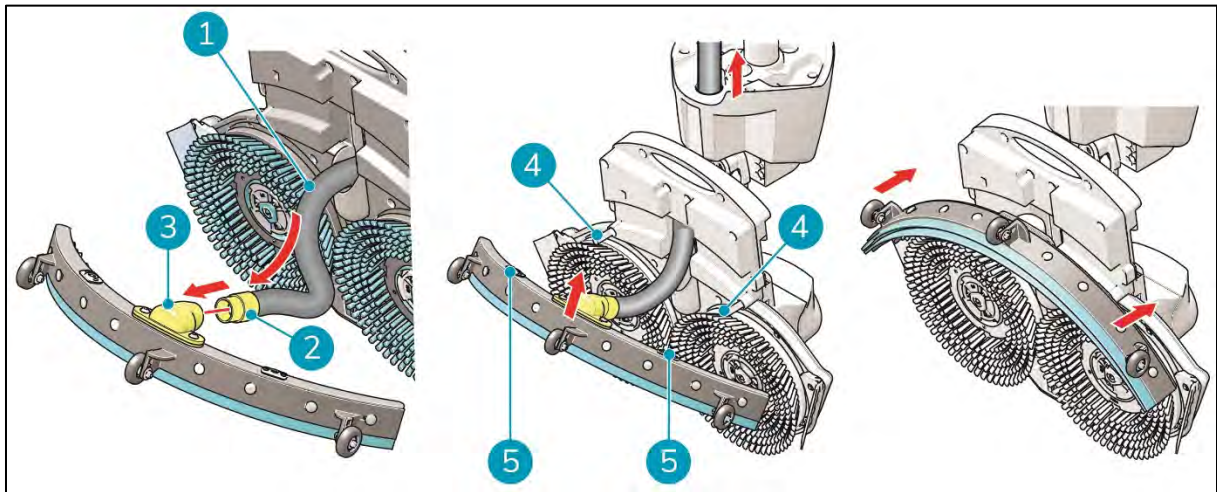

Figure 33
1. Take the vacuum hose (Figure 33, pos. 1).
2. Insert the hose connector (Figure 33, pos. 2) in the squeegee (Figure 33, pos. 3).
3. Twist the hose connector 1/4 turn for a firm fit (Figure 33, pos. 2).
6. Align the pins on the scrub deck (Figure 33, pos. 4) with the holes on the squeegee (Figure 33, pos. 5).